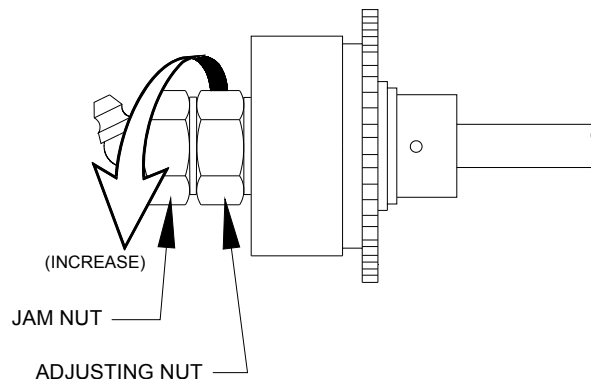

FIGURE 4-39: TORQUE LIMITING CLUTCH ADJUSTMENT
- 7) Refer to **Figure 4-39**. Do the following, if clutch adjustment is necessary: